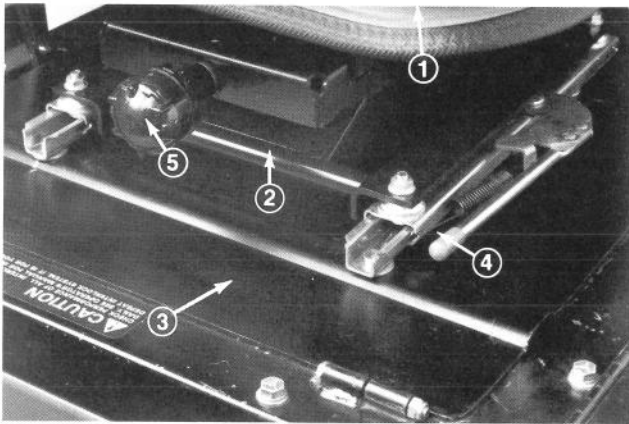

Figure 7
2. Loosely mount bottom of seat and manual tube R-clamps to seat suspension with (4) capscrews, lockwashers and flatwashers. R-clamps to be positioned at right side of seat. Install manual tube into R-clamps and tighten all capscrews.
3. Adjust seat for operator's comfort and weight. To adjust seat fore and aft, pull handle on left side of seat assembly outward (Fig. 7). Release handle to lock seat position. To adjust for operator's weight, turn spring tension knob; clockwise to increase tension, counterclockwise to decrease spring tension (Fig. 7).